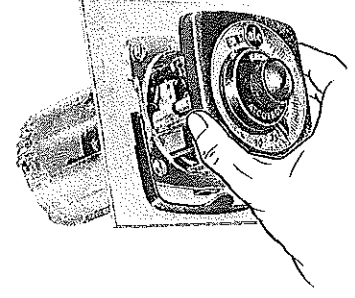

Fig. 4
- Fig. 4 Grasp the timer and pull it forward and free from its plug-in housing.